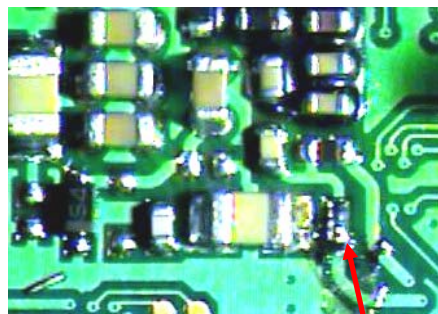

Fig. 3.0 –Solder short across pads
- b. Insert a solder short between the two pads where the resistor should be. (See Fig. 3.0 Below)